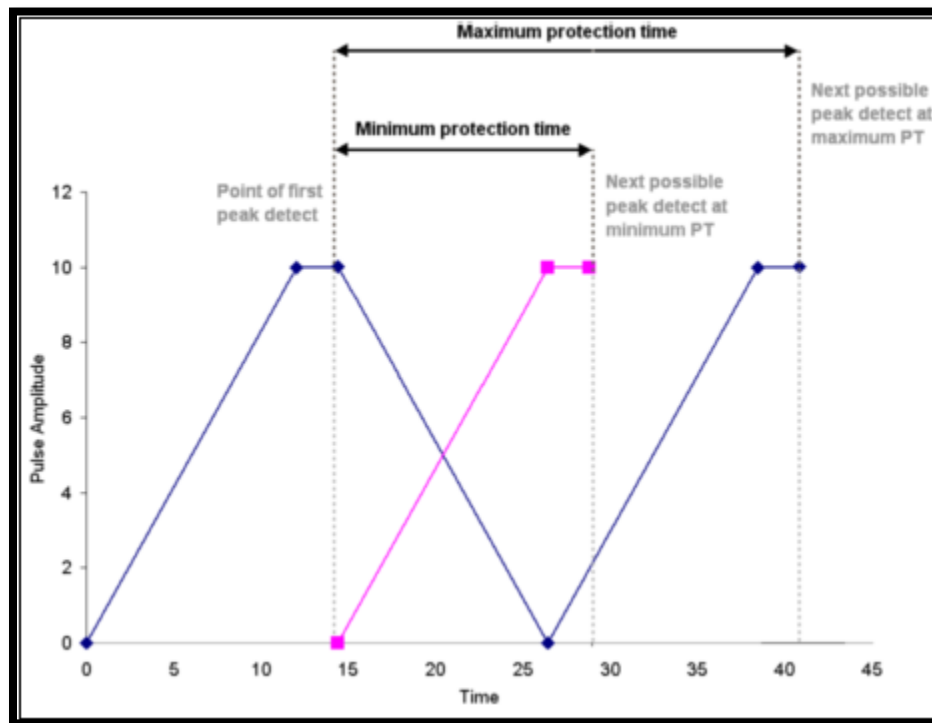

Figure 1. Demonstration of the DSPEC 50's Minimum and Maximum Protection Times in Enhanced Throughput Mode
The ORTEC *Enhanced Throughput Mode* takes advantage of this feature of digital signal processing by allowing users to adjust the delay between the peak-detect and the start of processing of the next pulse. The dead time for a conventionally processed pulse is the sum of the pulse's rise time, flattop, and fall time. By contrast, the dead time in ORTEC's Enhanced Throughput Mode can be as little as the rise time plus the flattop. These two scenarios are illustrated in Figure 1. The DSPEC 50 lets users set a *protection time* (PT), following a peak-detect, that blocks subsequent peak-detects until the protection time has elapsed. Note that the conventional dead time illustrated in Figure 1 is the same as the maximum protection time in Enhanced Through-put Mode. At the maximum protection-time setting, the DSPEC 50 processes pulses in the conventional way.